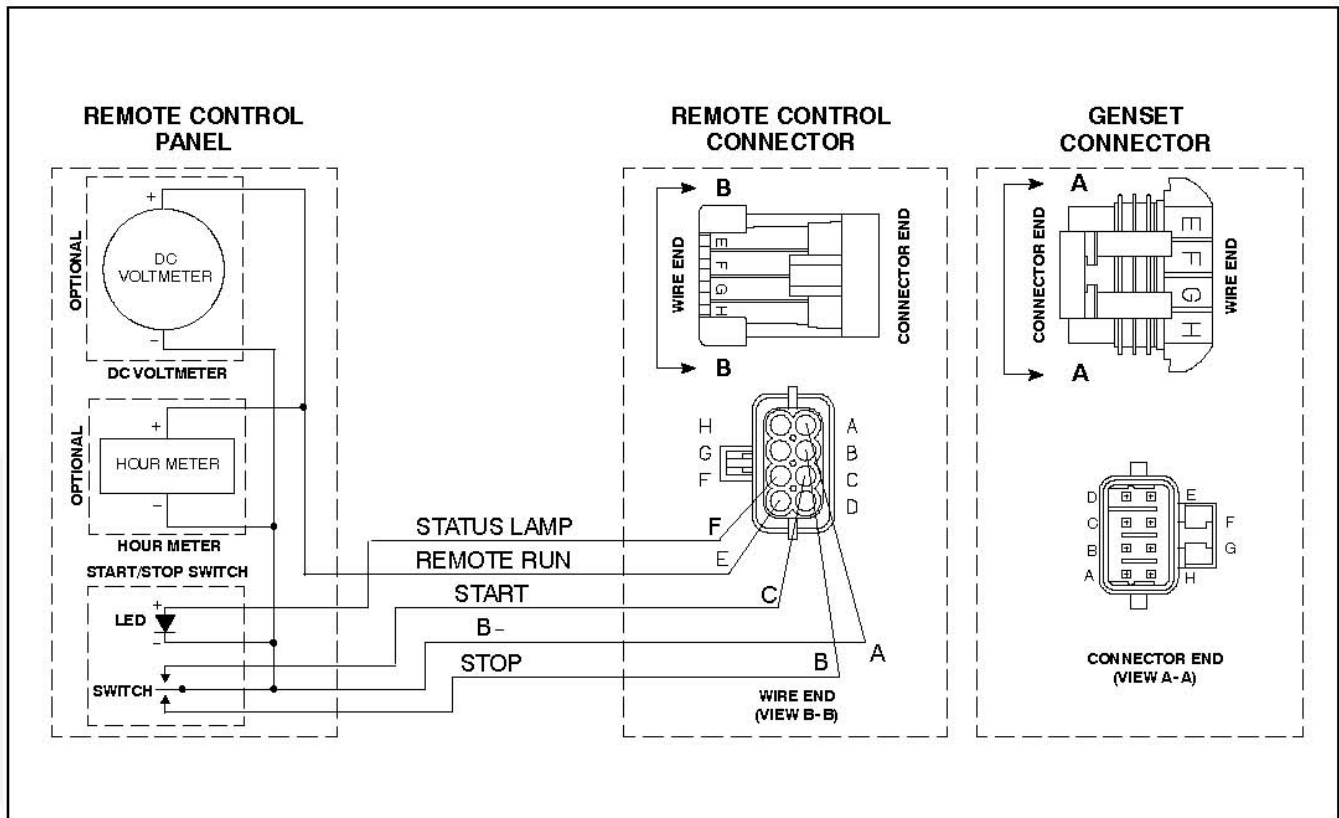

FIGURE 29. SCHEMATIC OF TYPICAL REMOTE CONTROL CONNECTIONS
2. Refer to Figure 29 to fabricate the remote control panel and/or wiring harness when not using the accessories available from Onan. Mark the remote control end of each lead to identify the connector pin number at the genset. Use insulated 18 AWG copper conductors for distances up to 30 feet (9 meters) and heavier gauge conductors for greater distances. Protect the wiring with full-length flexible sheathing.